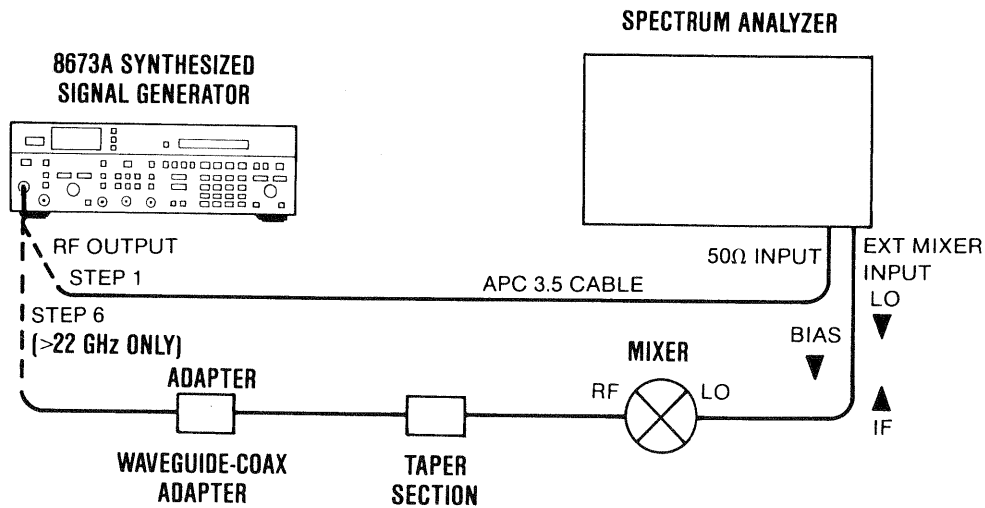

Figure 4-4. Harmonics, Subharmonics, and Multiples Test Setup
1. Connect the Signal Generator RF OUTPUT to the input of the spectrum analyzer as shown in Figure 4-4.
6. Connect the equipment as shown in Figure 4-4 using the external mixer and adapter. Select the 14.5 to 26.6 GHz band on the spectrum analyzer, and adjust the bias current for optimum signal on the display.